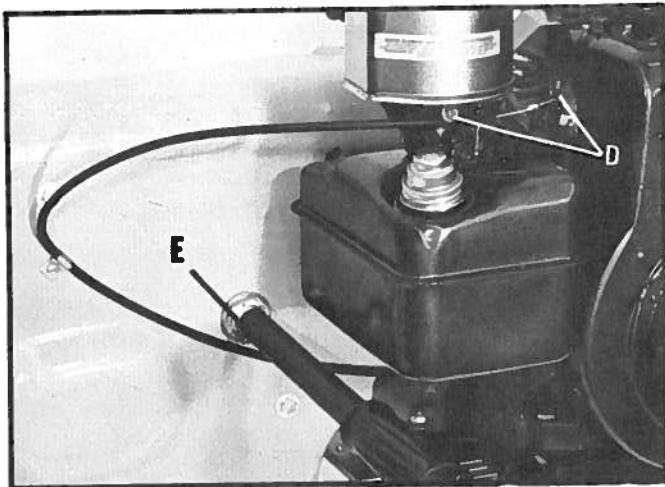

Fig. 3
3. Disconnect the throttle cable from the engine at points (D) Fig. 3, and remove the left handle bar (E).